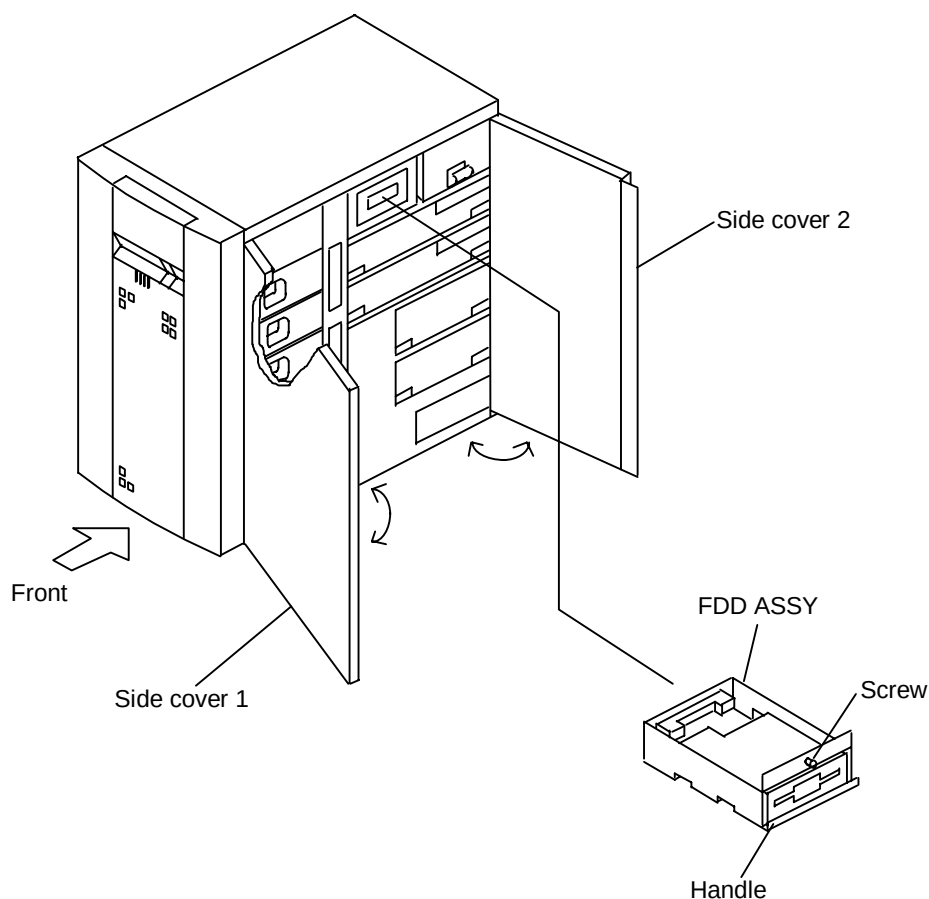

Figure 7.1 Replacing FDD ASSY
7. Replacing FDD ASSY (See Figure 7.1.)